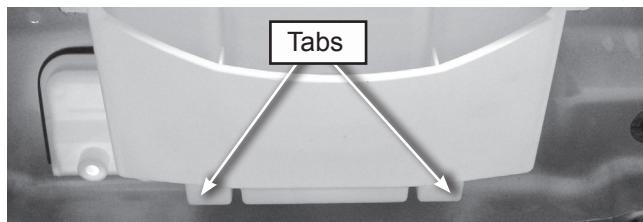

Figure 5
8. The dispenser is held in the back by tabs, see figure 5.